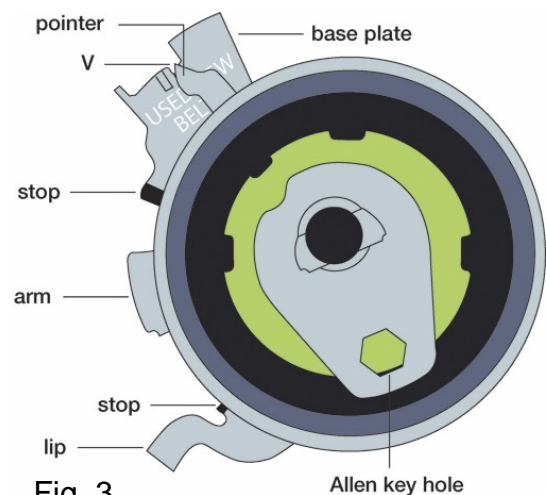

Fig. 3
- Adjust tensioner (while holding the tensioner bolt in place), till pointer in line with V ("NEW" position); the Allen key hole has to be in +/- 5 O'clock position now (fig. 3)